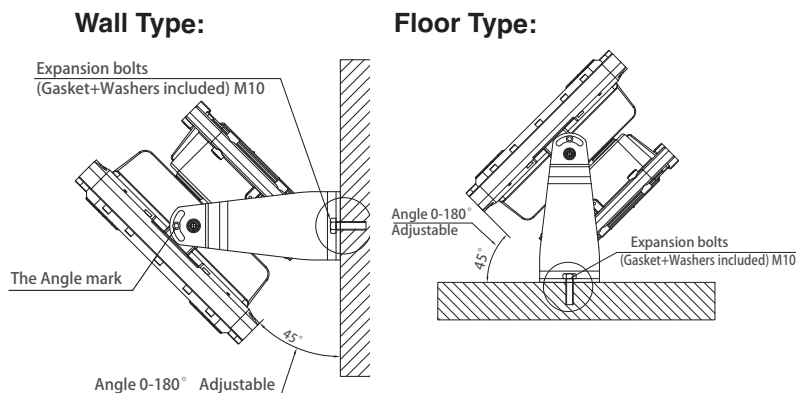

Fig. 2
10. The luminaire can be adjusted facing down 90° from vertical = Lens horizontal facing down on ceiling position. **(Figure 2)**.